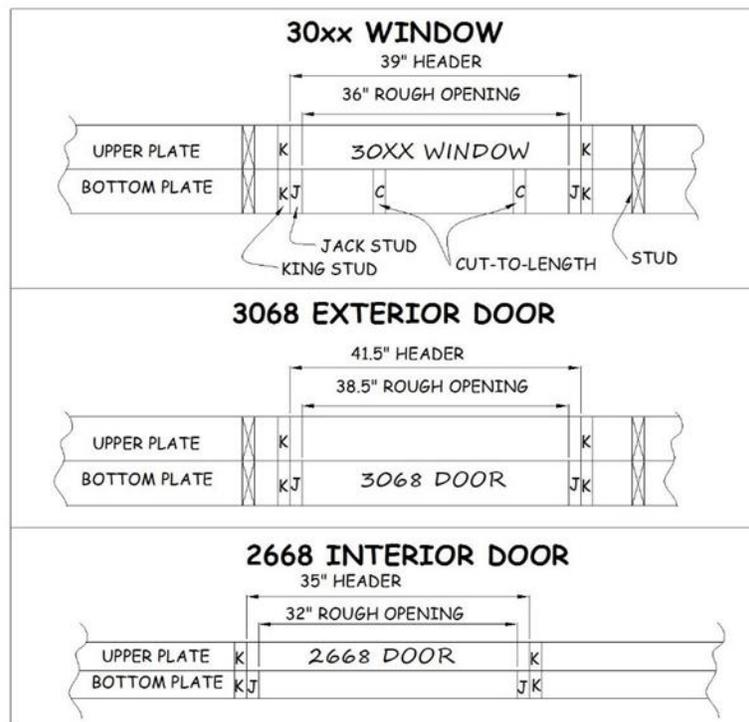
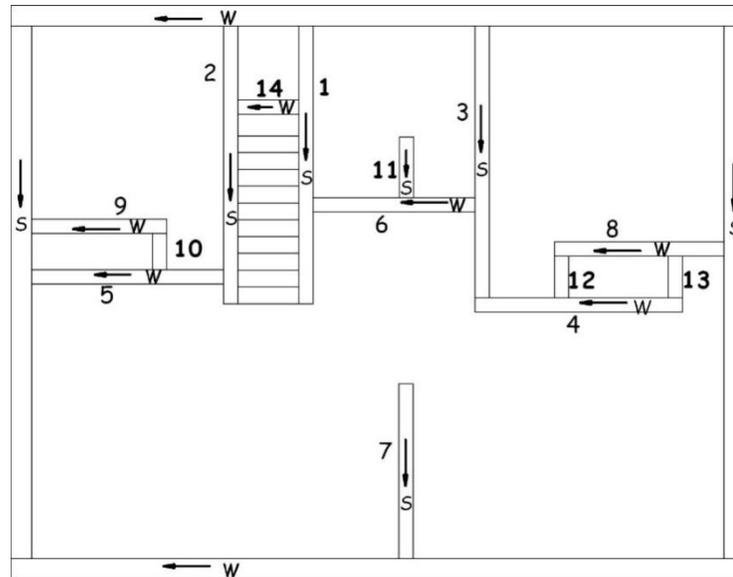

Figure 3-5. Plate Marking for Doors and Windows.
Figure 3-8. Plate Labeling Diagram.
- Referring to the window or door sizes indicated on the Plate Layout Drawing, measure and mark the location of the King and Jack studs supporting the header (see Figure 3-5). Window and door sizes are indicated with a four-digit code. The first two digits represent the width of the opening in feet and inches. The second two digits represent
4. Label the King and Jack stud locations with "K" or "J" to specify the location of the pre-built window and door components during wall assembly. The Jack studs will always be to the inside of the King Studs. Stud width is always 1½". Label the location of both King and Jack studs on the bottom plate but label only the King stud on the upper plate (see Figure 3-5).
- a. Mark the inside edge of the upper plate with “UPPER” and the inside edge of the bottom plate with “BOTTOM” (see Figure 3-5). Mark the upper plate with a letter and arrow showing the compass orientation (north, south, east or west) of the plates while lying on the deck (see Figure 3-8).
5. When complete, label upper and bottom plates. Mark compass orientation and label both plates and deck with an identifying number (see Figure 3-8).